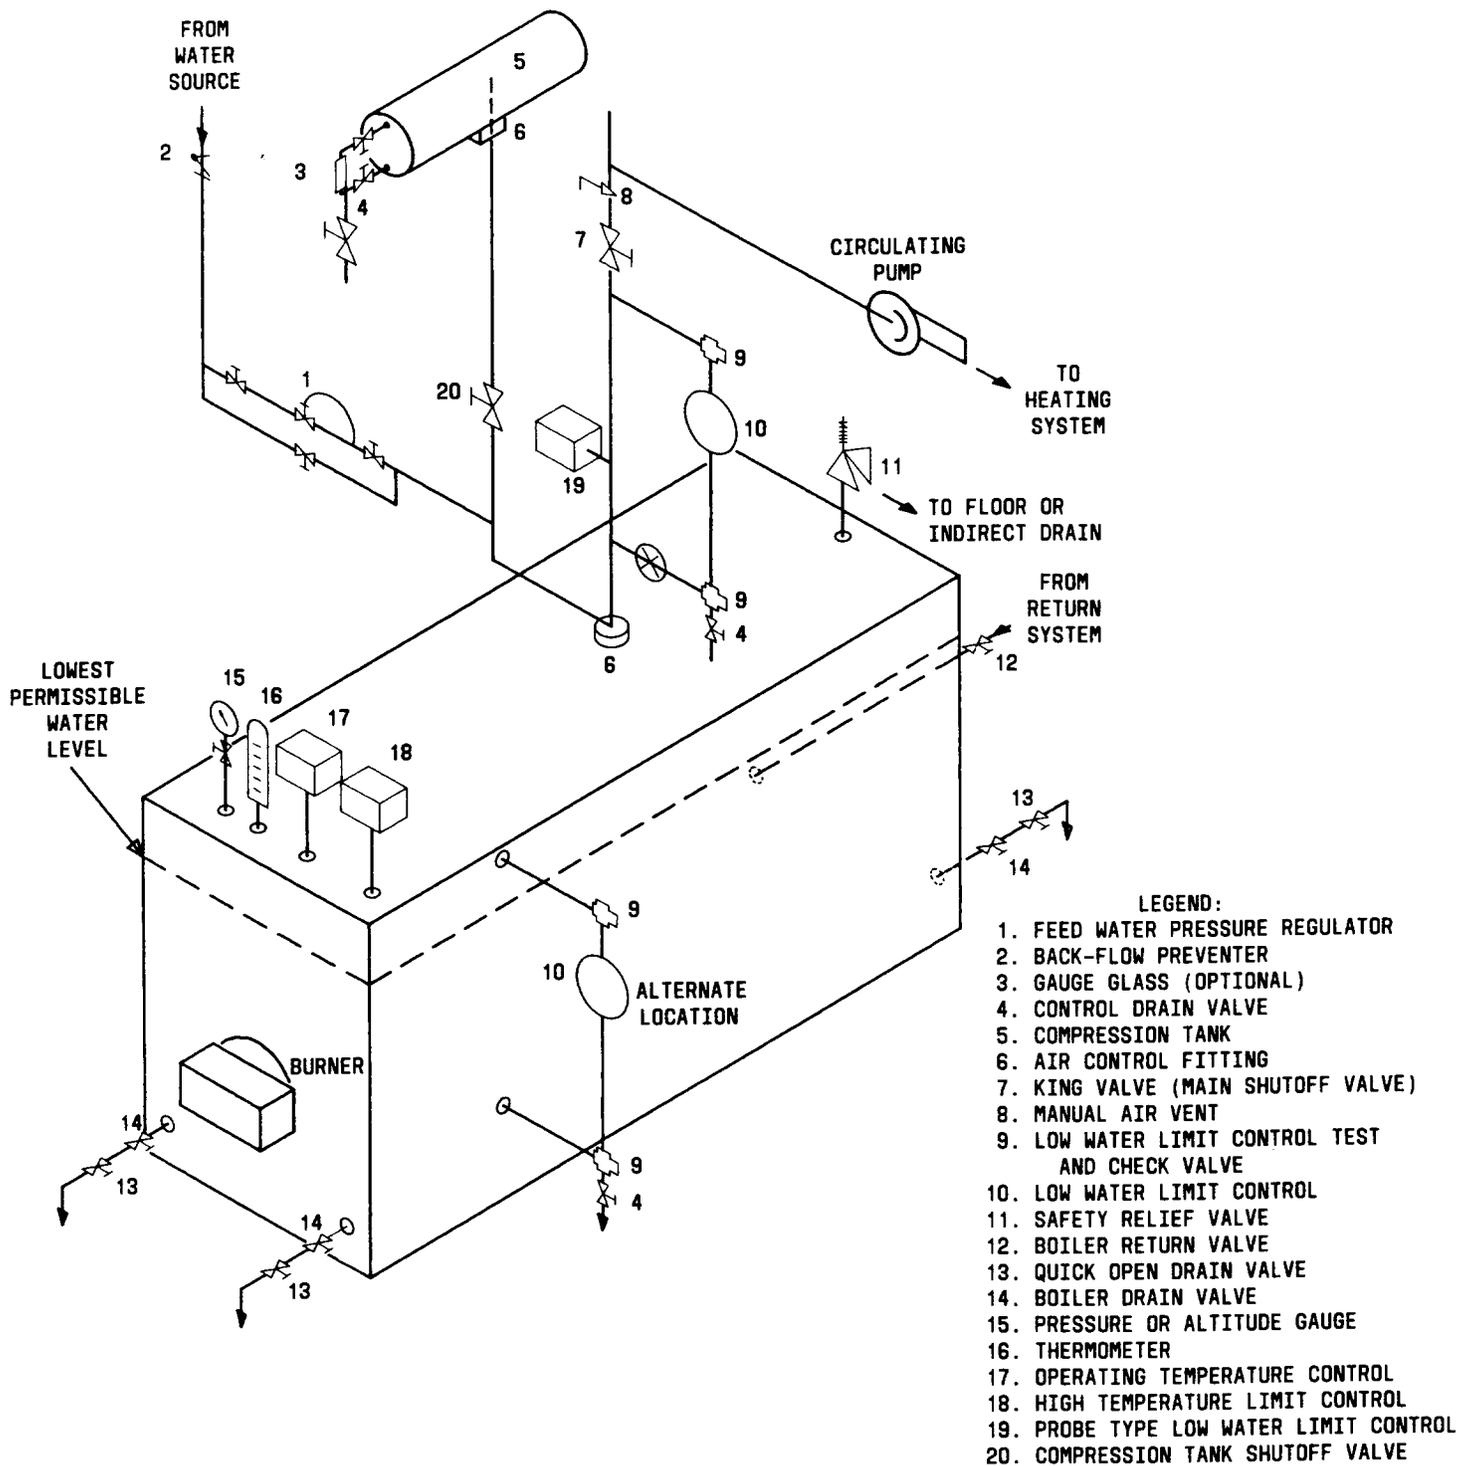

Fig. 1—Hot Water Boiler
1.01 This section describes the controls and subordinate parts required on hot water boilers. Each hot water boiler, whether it is cast iron, steel fire tube, or steel water tube, shall have the controls and subordinate parts described in this section (See Fig. 1.)